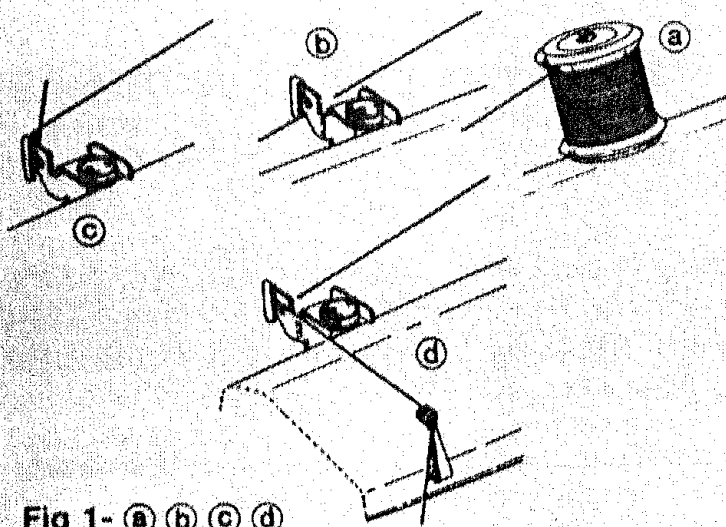

Fig 1- a b c d
1. To install the machine in cabinet, position machine head on cabinet platform so that holes on bottom of machine match those on boards. Insert washers and screws and tighten into place. (Fig. 1)
1. Remove the extension table from the machine by folding the support leg up and pulling table to the left. (Fig. 1, 2)
2. To replace the table, simply slide it along the free arm to its original position and place supporting leg in down position. (Fig. 1)
1. Place thread on spool pin as shown, with the threading coming from the back of the spool (Fig. 1-a). Draw thread through the rear thread guide (Fig. 1-b, 1-c). Pass thread through top thread guide (Fig. 1-d).